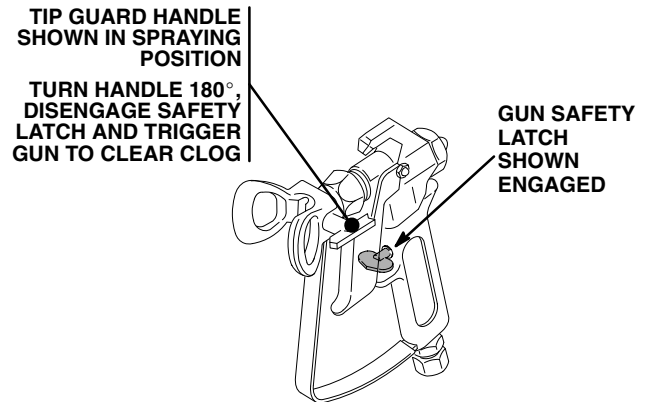

Fig. 5
2. If the spray tip does clog, release the gun trigger, engage the gun safety latch, and rotate the RAC IV handle 180°. See Fig. 5.